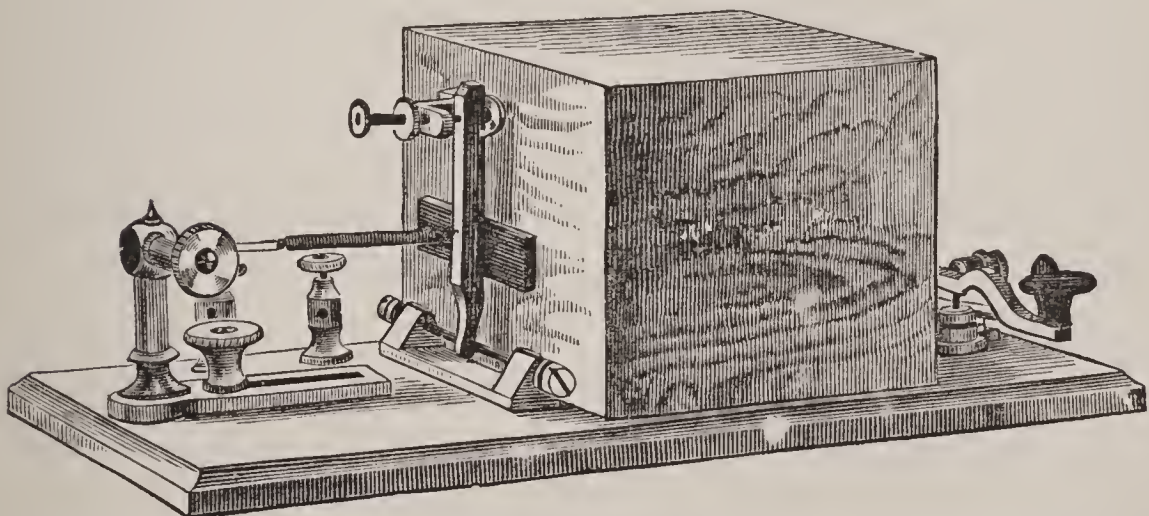

Fig. 13.—Box Sounding Relay and Key.—Combination Set.
*What is the box relay or main line sounder?—*An instrument worked direct by the main line current similar to the relay (often with a key attached) for increasing the sound of the armature, thus dispensing with the local circuit. (See Fig. 13.)